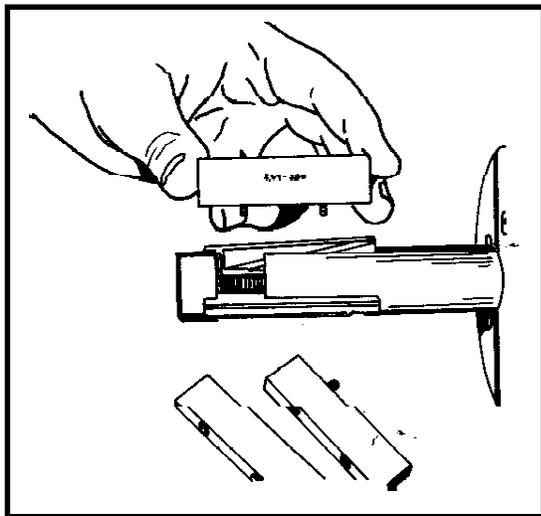

Figure 5
4. Select the required extension leg set. The extension legs have two captivated fasteners in each leg which screw into the permanently mounted chuck legs (figure 5).